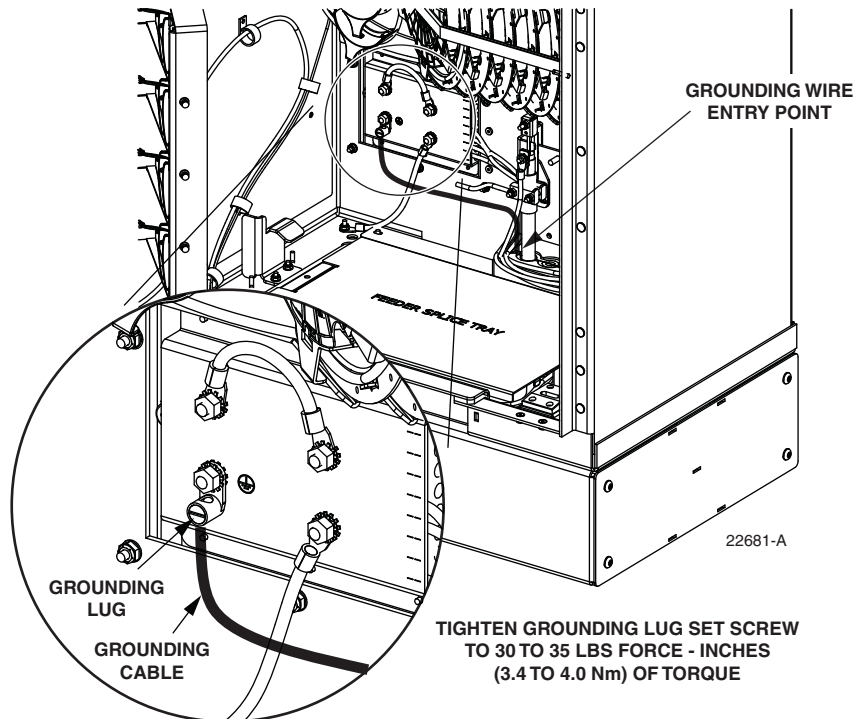

Figure 15. Grounding Wire Connection To Cabinet
2. Working through the access openings in the base of the cabinet, insert the grounding wire through the flexible membrane at the point indicated in Figure 15.